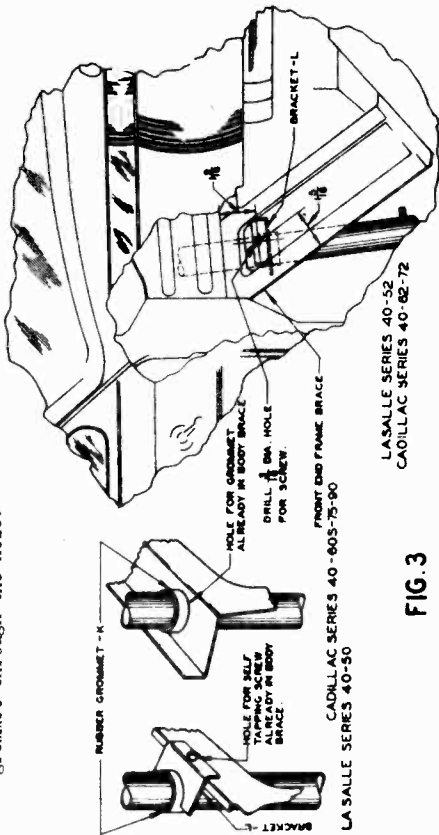

FIG. 3
- Attach the bottom antenna support bracket (L) to the front end body brace on Series 40-50, 52, 62 and 72 with self tapping screw, as shown in Fig. 3. The hole is provided in Series 40-50 but must be drilled in Series 40-52, 62 and 72. On Series 40-60S, 75 and 90 this support is built into the body brace and it is only necessary to insert the rubber grommet through the hole.
- Lower the antenna assembly through the hole in the cowl and put on Rubber Grommet (K) in Fig. 3 and washer (J) and rubber spacer (H) in Fig. 4.
12. Push grommet (K) into place in bracket (L) or the hole in the support brace, as shown in Fig. 3.